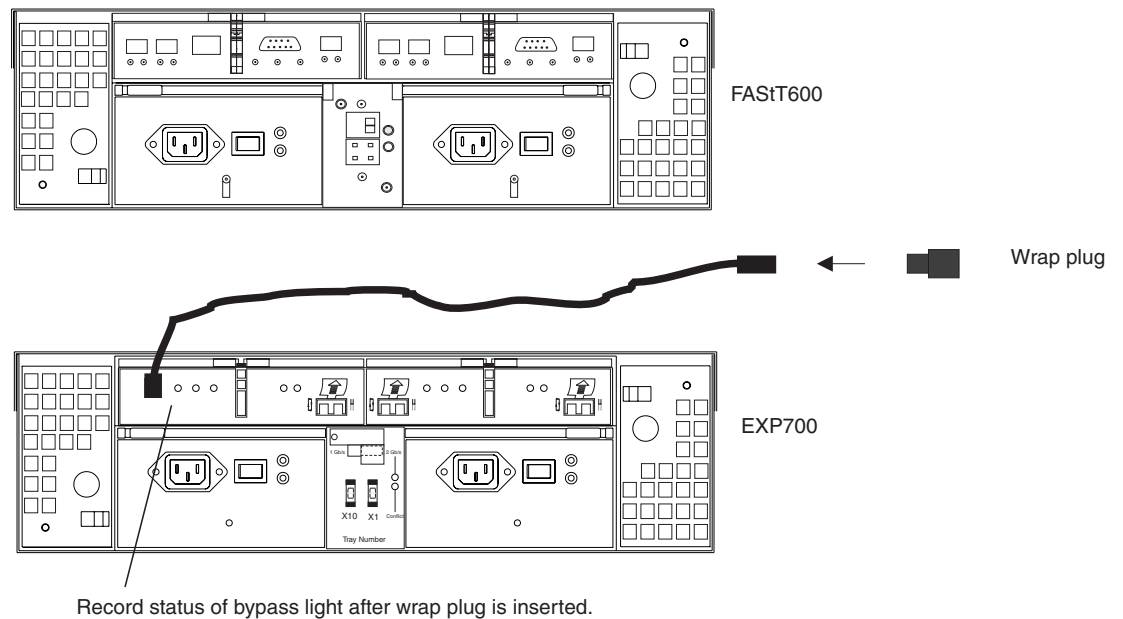

Figure 162. Inserting a wrap plug onto a copper cable
- Insert the FC copper cable wrap plug into the unplugged cable end. See Figure 162. Record the state of the port bypass light on the end where the FC copper cable is still inserted.